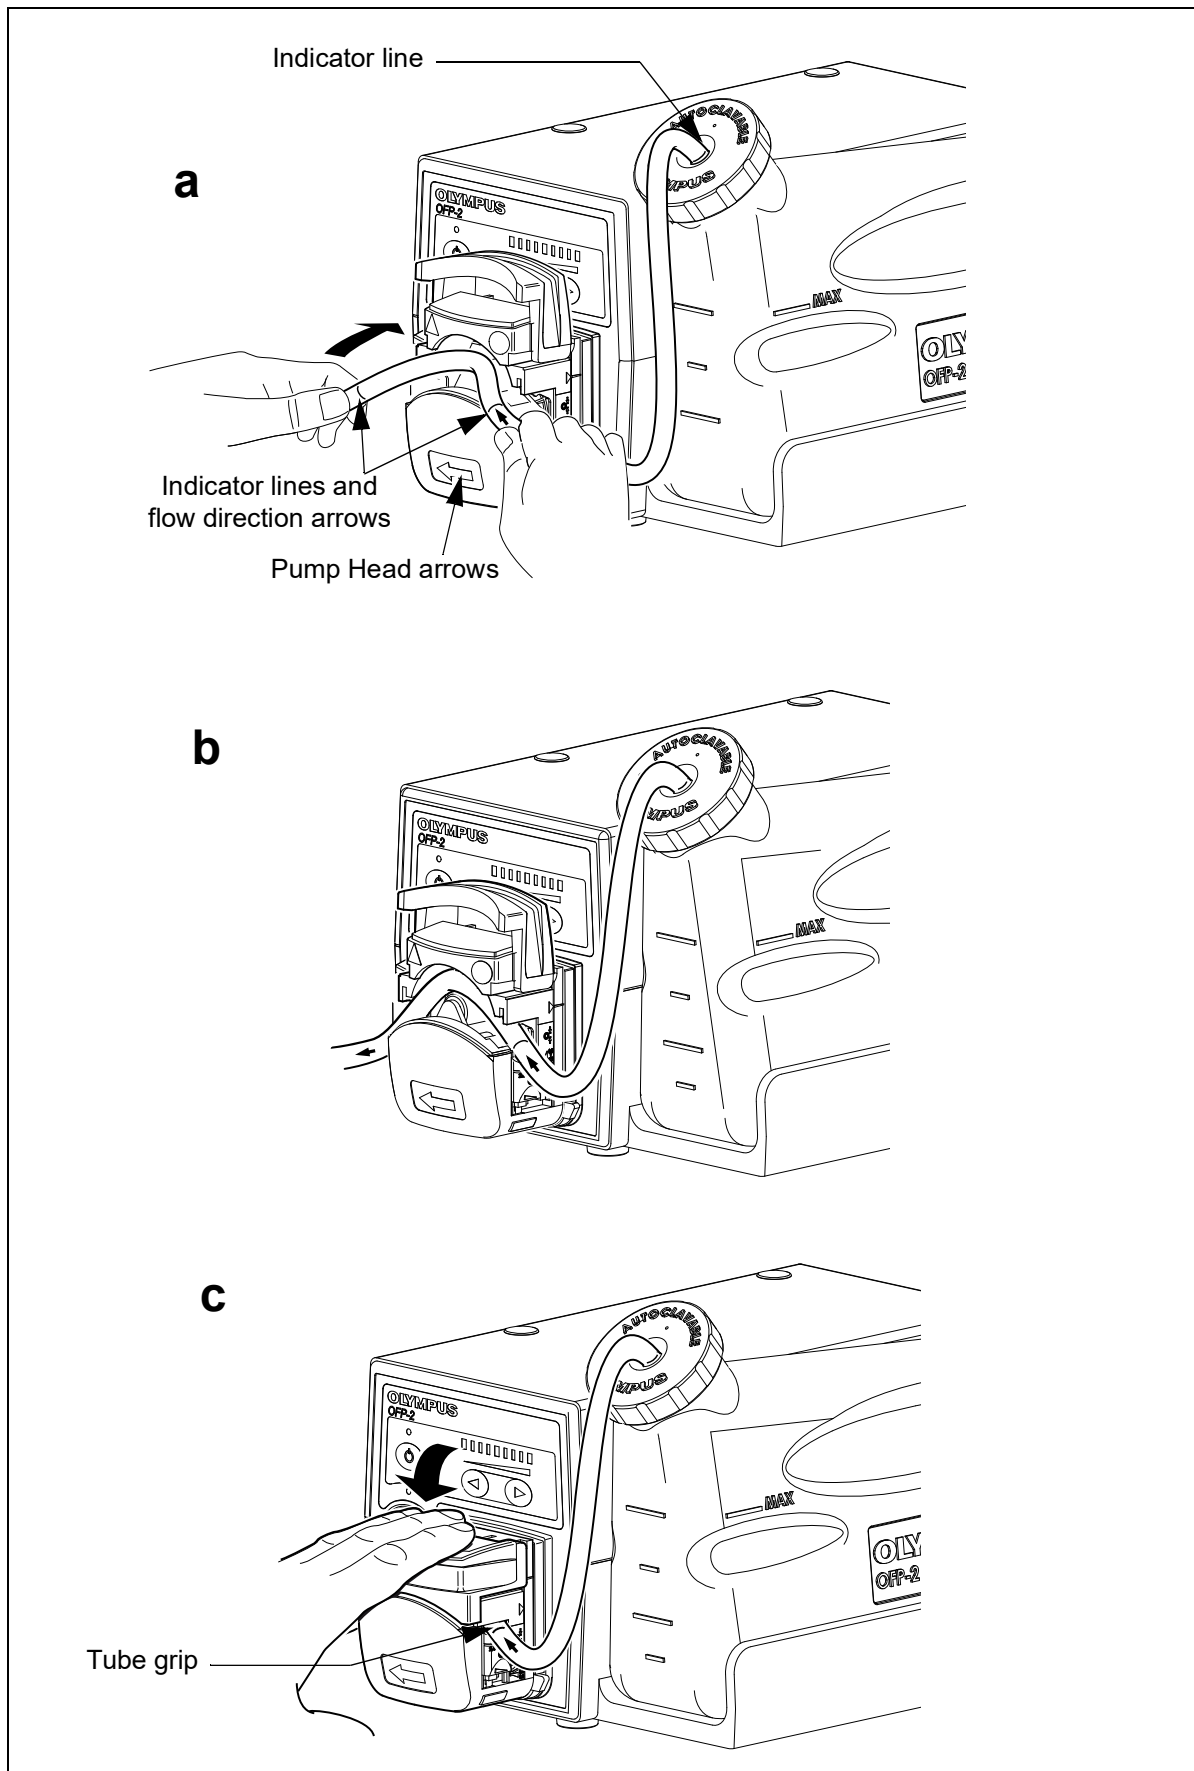

Figure 3.7
- (iv) Close the pump head lever, ensuring that the tube is fully retained within the tube grips on the side of the pump head (Figure 3.7c). The tube should form a smooth radius when fitted (Figure 3.7)